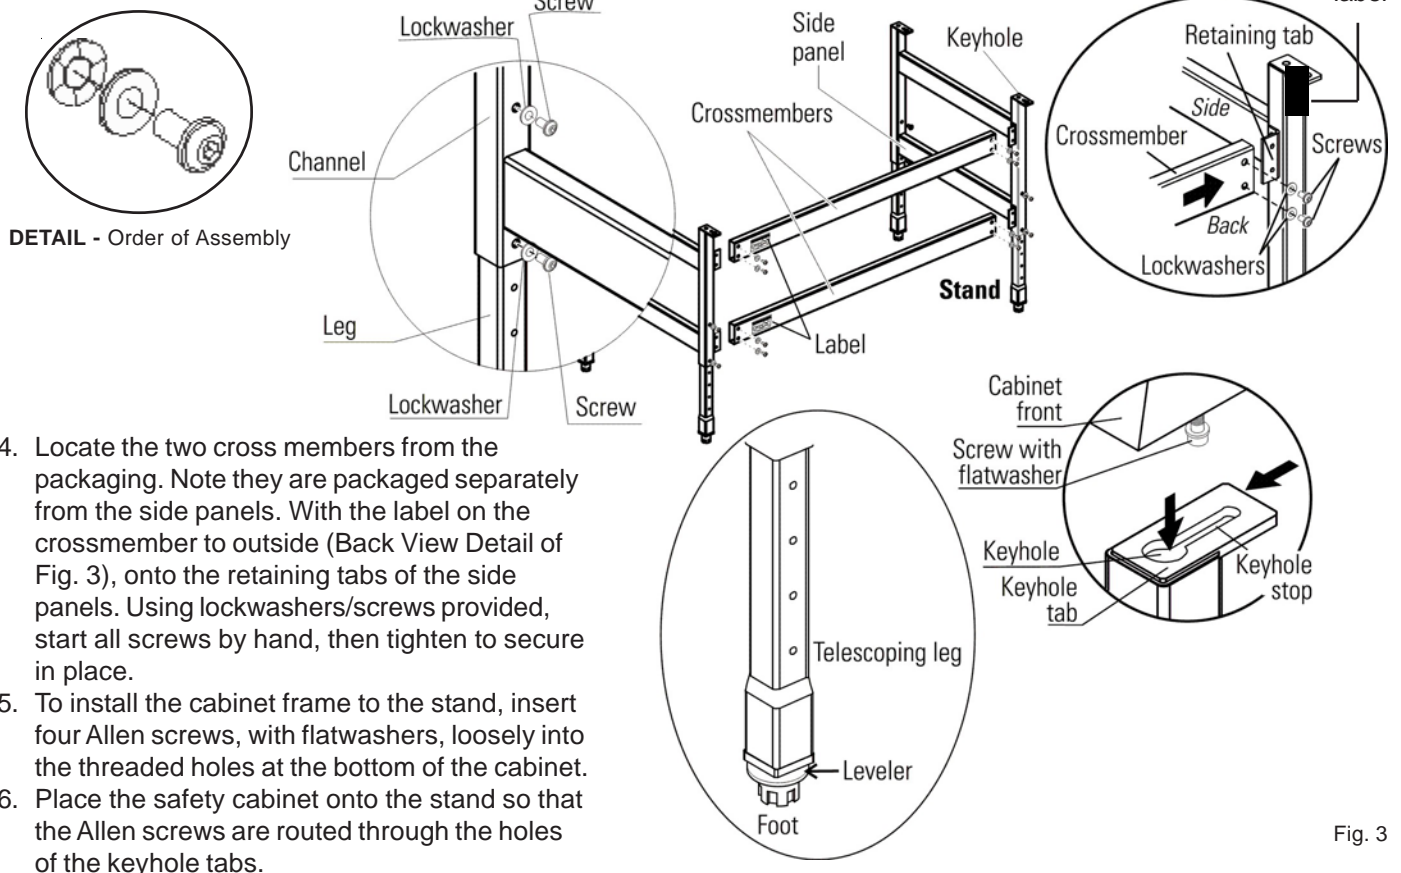

Fig. 3
2. Locate the left and right side panels. Install the leg assemblies into the side panels as shown in Fig. 3.
4. Locate the two cross members from the packaging. Note they are packaged separately from the side panels. With the label on the crossmember to outside (Back View Detail of Fig. 3), onto the retaining tabs of the side panels. Using lockwashers/screws provided, start all screws by hand, then tighten to secure in place.
7. Slide the cabinet frame to the keyhole stop (Front View Detail of Fig. 3).
9. Install a grey hole cover label to the back of each leg, covering the hole just under the keyhole tabs. Apply 4 labels. Refer to Fig. 3.